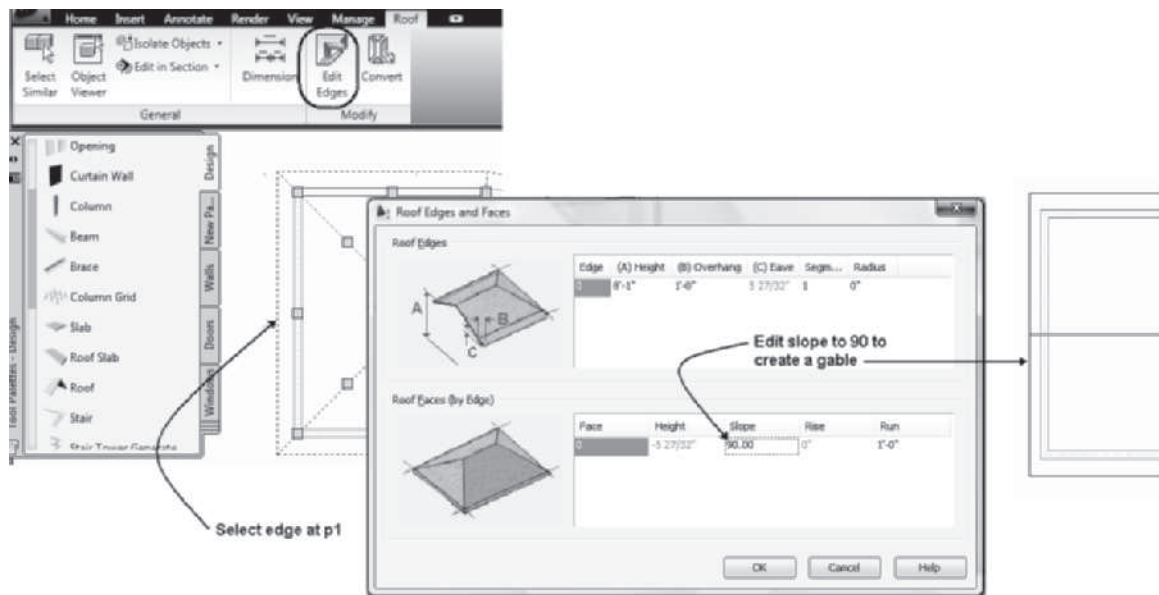

FIGURE 7.13 Selecting Edit Edges/Faces from the shortcut menu
When the **Edit Edges/Faces** command (**RoofEditEdges**) is selected from the Modify panel of the ribbon as shown in Figure 7.13 you are prompted to “Select a roof-edge” in the workspace. When you select an edge, the **Roof Edges and Faces** dialog box opens as shown in Figure 7.13. In contrast to clicking the **Edges/Faces** button in the Properties palette, this command limits the display to only information regarding the plane selected. The Edit Edges/Faces command allows you to select one or more roof edges for edit and change the edge in the Roof Edges and Faces dialog box. When the slope is changed, the adjoining roof planes extend or adjust to the different slope. The steps to editing an edge to create a gable are described below.
1. Select the roof and choose **Edit Edges** from the Modify panel in the Roof tab as shown in Figure 7.13. Respond to the workspace prompts as shown below.
Select a roofedge: (Select roof edge at p1 as shown in Figure 7.13.)
2. Edit the **Roof Edges and Faces** dialog box: click in the **Overhang** column of the top **Roof Edges** section and overtype an overhang value. Then click in the **Roof Faces (by Edge)** section, click in the **Slope** column, and overtype the slope value to **90** as shown in Figure 7.13. Click **OK** to dismiss the Roof Edges and Faces dialog box. The slope of the roof has changed as shown at the right in Figure 7.13.